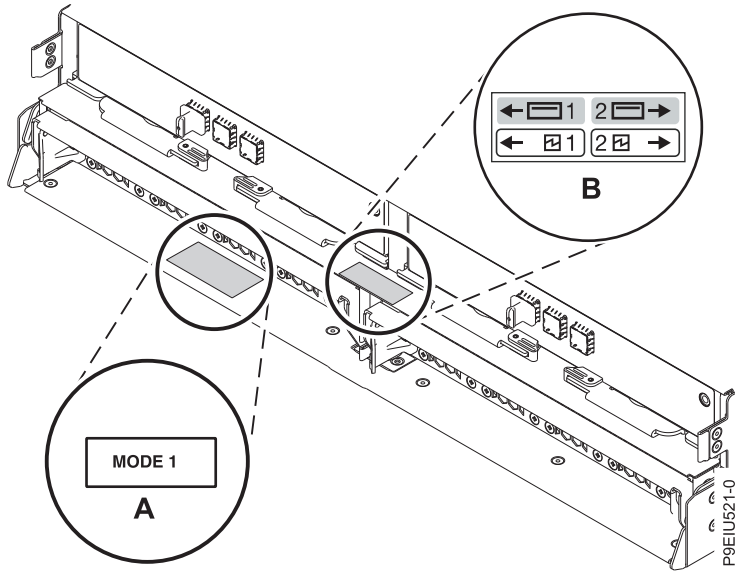

Figure 12. Mode sticker locations at the rear of the ESLL or ESLS storage enclosure
2. Confirm the factory-set mode of the enclosure by using information that is printed on stickers at the rear of the enclosure. Stickers are attached to the lower-left shelf of the chassis **(A)** and the center support between the enclosure services manager modules **(B)**. The stickers indicate whether the enclosure is set to mode 1, mode 2, or mode 4. For details, see Figure 12 on page 11.